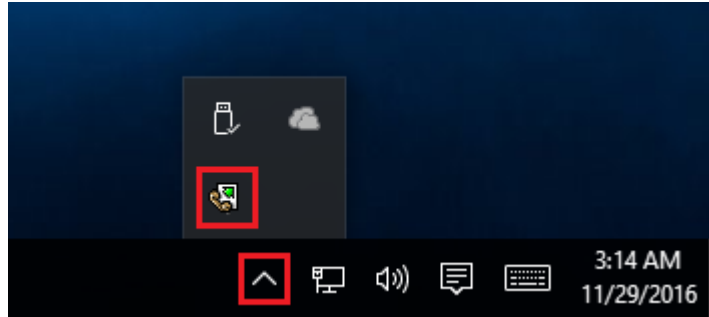

Fig. 6.1.2 Systray - panel near clock
- **Start in minimized state** - at start Serial Printer Logger will automatically minimize the program window to the taskbar or to the Systray (fig. 6.1.2).